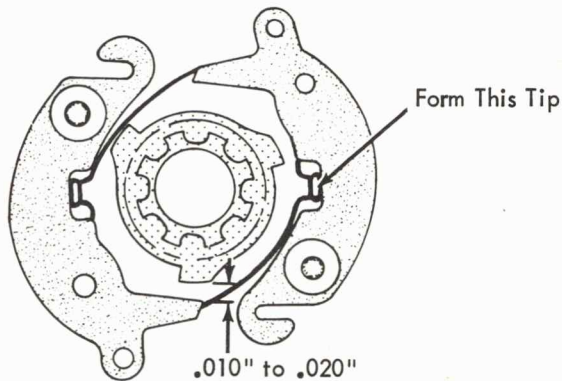

FIGURE 1. Motor Clutch Pawls
3. Motor Clutch Pawl Stops (Fig. 1) - Form for a clearance of .010" to .020" between the clutch pawl tip and pulley ratchet when the pulley is manually rotated.